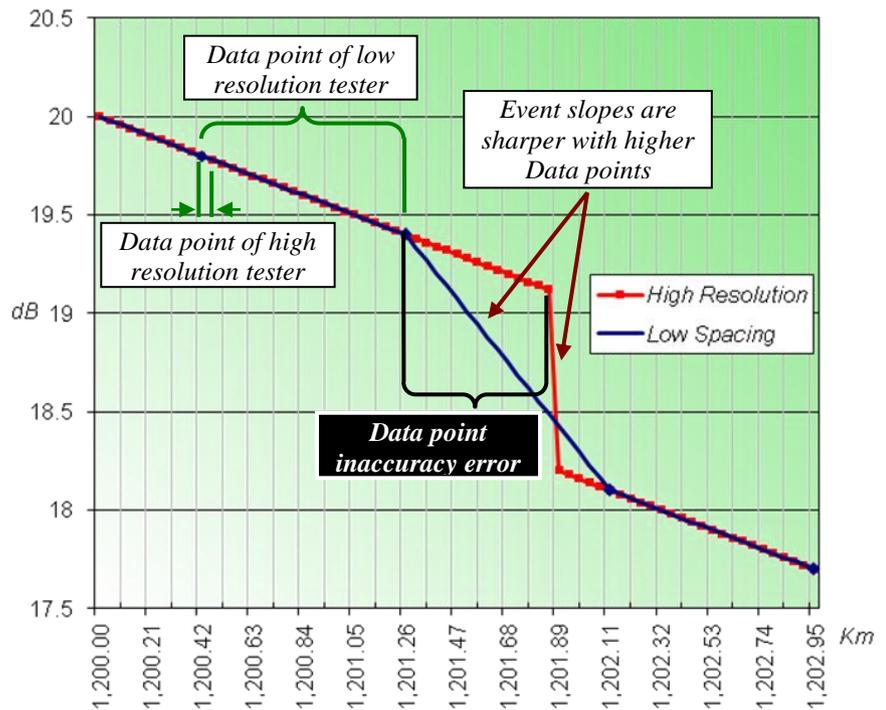

Fig 6; Data Point resolution of different C-OTDR's
- $8,000\text{km} / 10,000 = 800\text{m}$  (data point inaccuracy). See Fig 6,